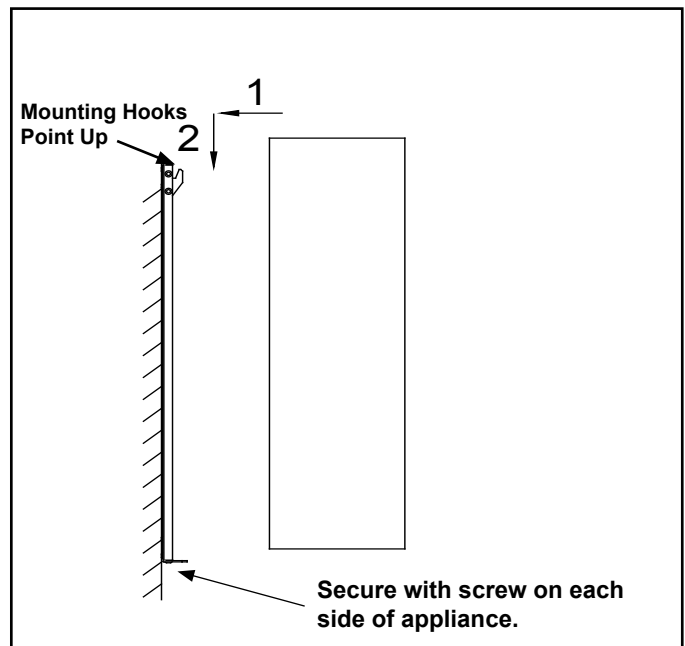

Figure 4.14 Attaching Appliance to Bracket
- Hang the appliance and pull down to ensure the hooks are fully engaged. See Figure 4.14.
- Secure the appliance to the bracket with two M5X10 screws. See Figure 4.14.